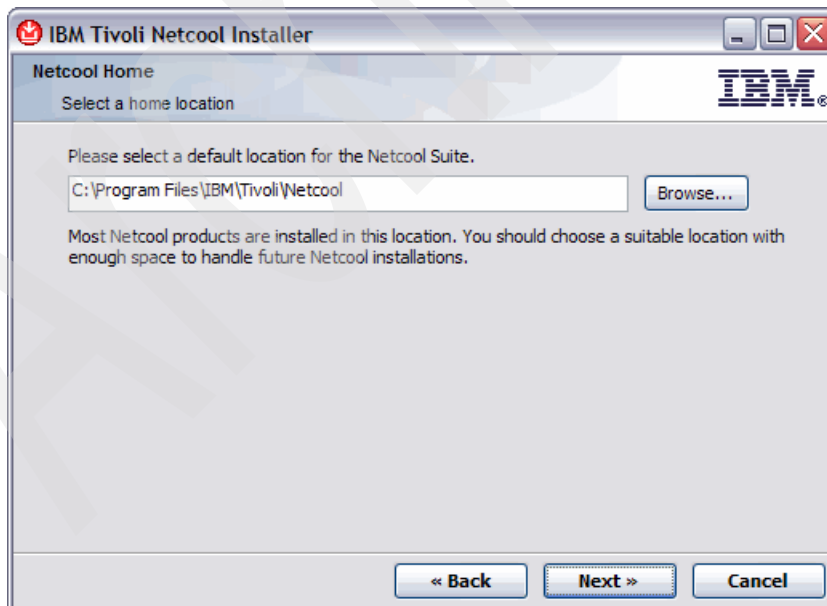

Figure 4-3 IBM Tivoli Netcool/OMNibus installation home location
3. Choose the installation directory, as shown in Figure 4-3. Click **Next**.